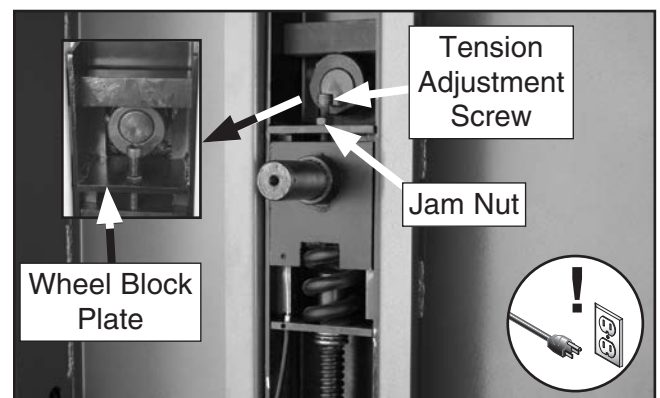

Figure 108. Example of quick-release tension lever adjustment screw.
3. Loosen the jam nut on the tension adjustment screw 7-10 turns (see **Figure 108**).
5. Thread the tension adjustment screw (see **Figure 108**) down until it contacts the wheel block plate, then back it off 1-2 turns.